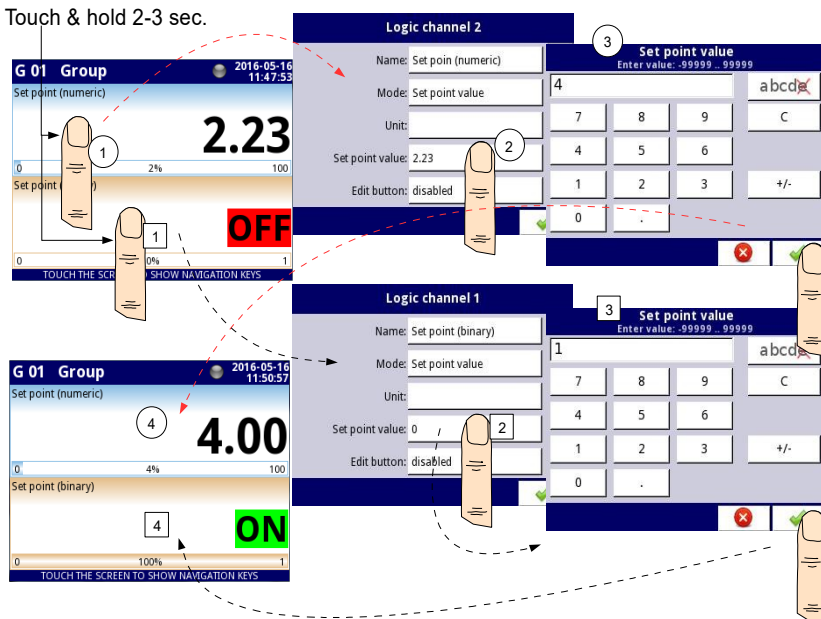

Fig. 7.56. Configuration of the value for Logical channel in **Set point value** for the disabled button
- **disabled** - the button is disabled on the display, in this case the data source of the logical channel will be the value set in the **Set point value** parameter, (see **Fig. 7.56**),